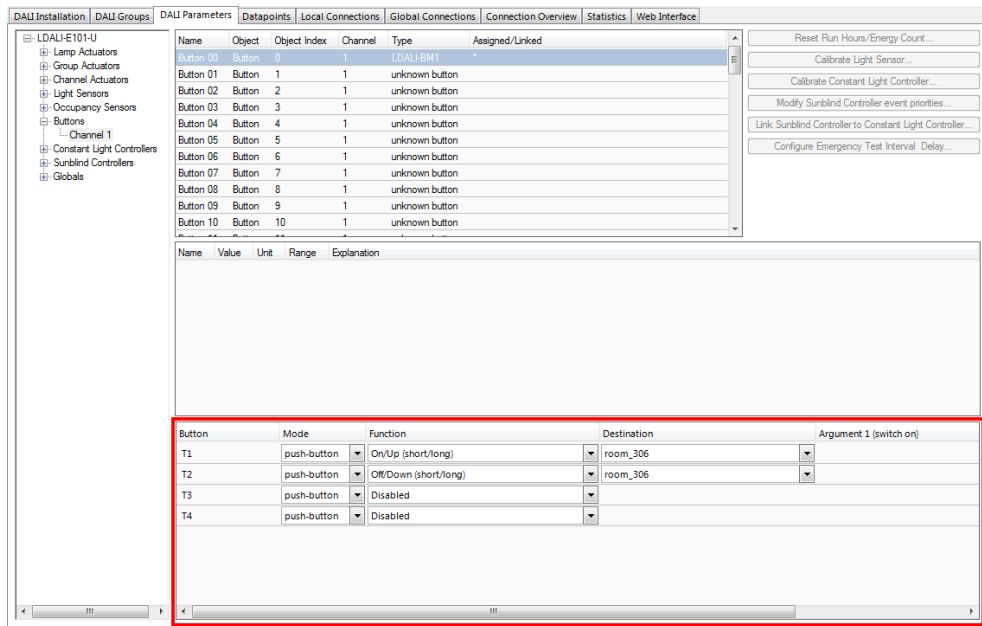

Figure 38: Parameterize DALI button functions.
- Determine which sensors (occupancy & lux) are used as inputs to the constant light controller instance and which groups are controlled in the lower part of the window (2).
- Stay on the **DALI Parameters** tab and select the button object to which you have assigned your DALI button as shown in Figure 38.